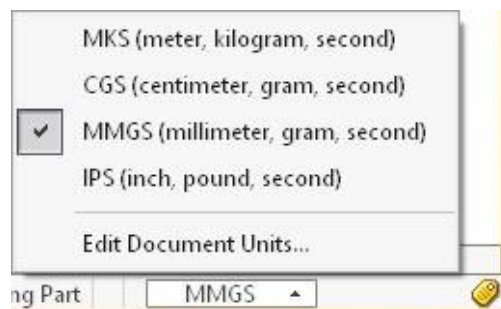

Figure 3-3 The flyout showing the currently selected unit system
1. Choose the **Unit system** button located in the Status Bar; a flyout is displayed with a tick mark next to the unit system of the current document, as shown in Figure 3-3.